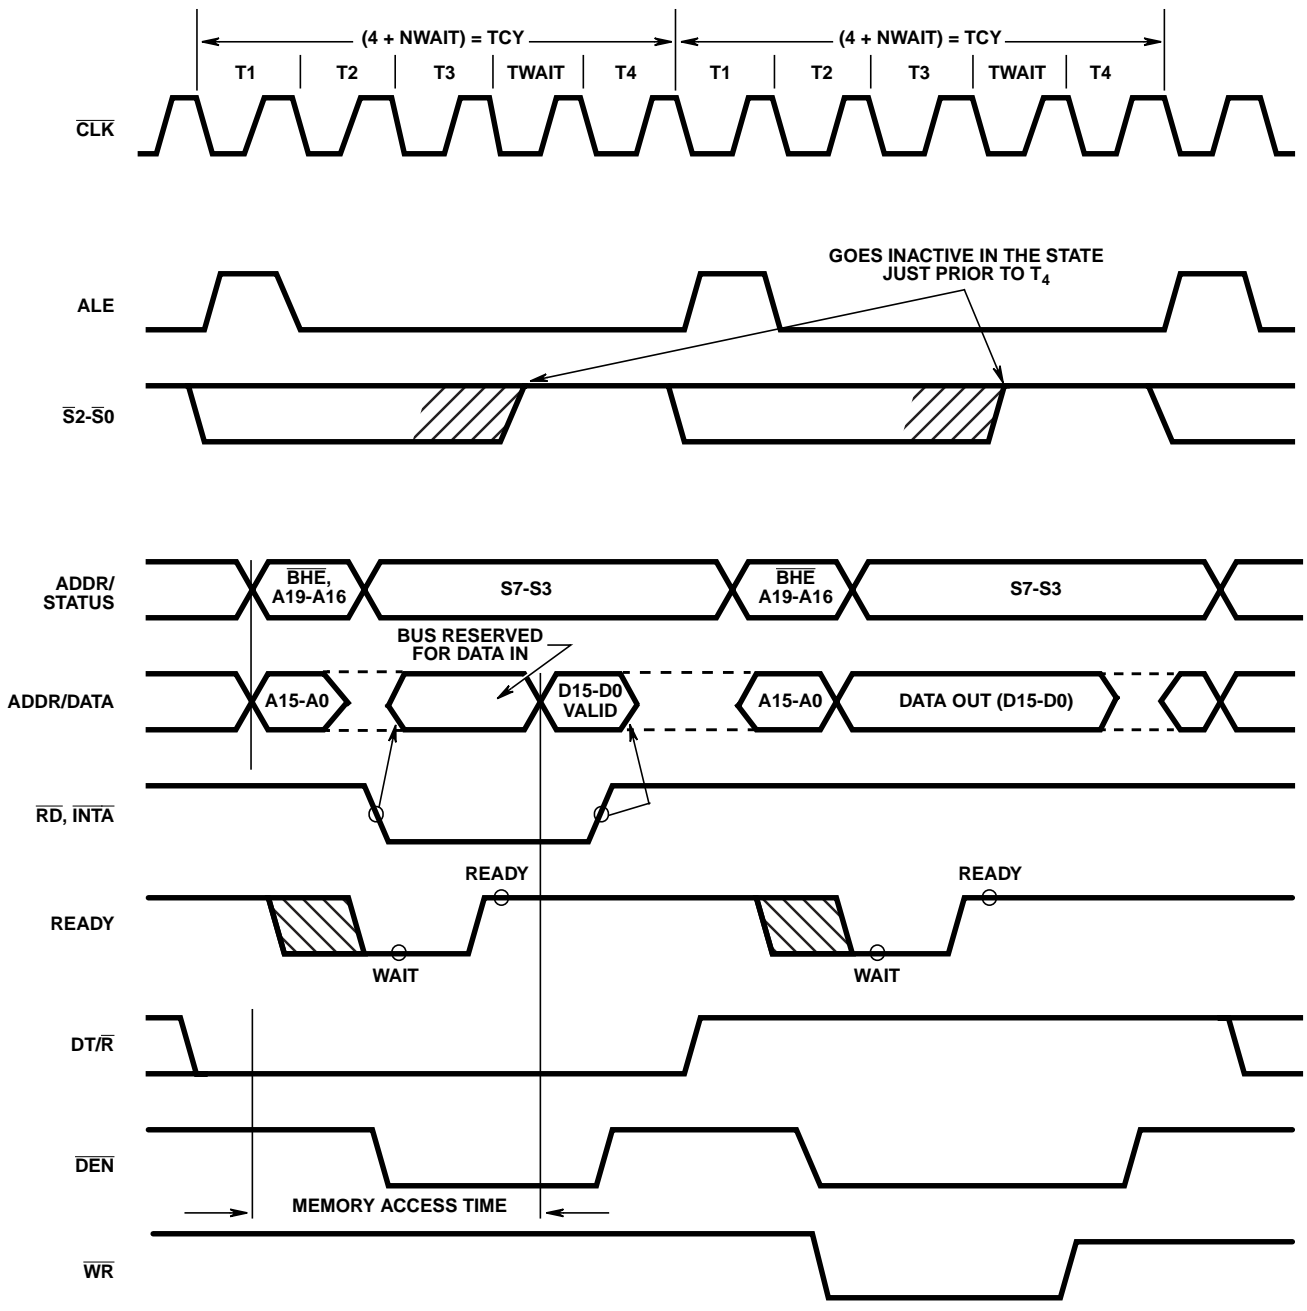
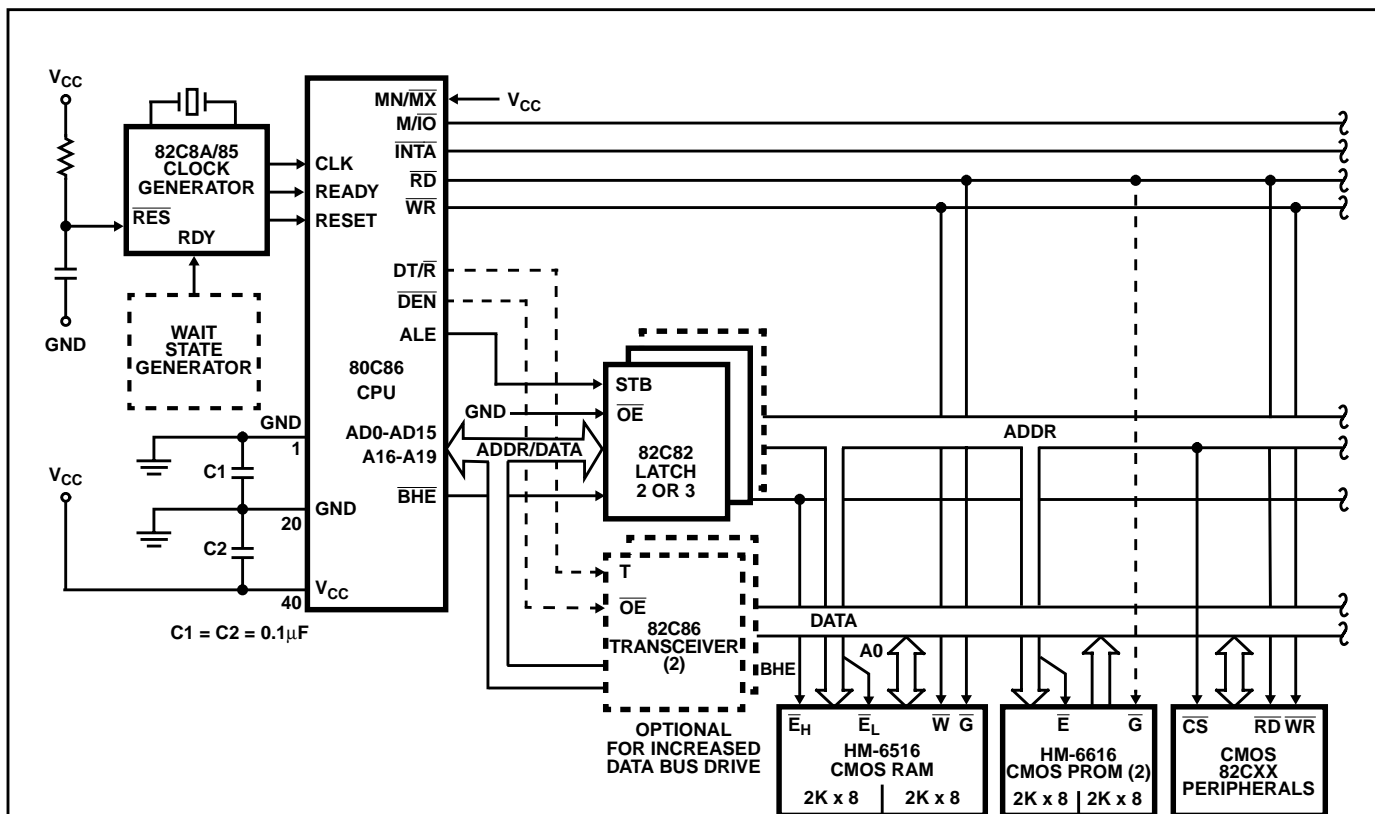

FIGURE 3. BASIC SYSTEM TIMING
FIGURE 6A. MINIMUM MODE 80C86 TYPICAL CONFIGURATION
The demultiplexed mode requires two 82C82 latches (for 64K addressability) or three 82C82 latches (for a full megabyte of addressing). An 82C86 or 82C87 transceiver can also be used if data bus buffering is required. (See Figure 6A.) The
Each processor bus cycle consists of at least four CLK cycles. These are referred to as T1, T2, T3 and T4 (see Figure 3). The address is emitted from the processor during T1 and data transfer occurs on the bus during T3 and T4. T2 is used primarily for changing the direction of the bus during read operations. In the event that a "NOT READY" indication is given by the addressed device, "Wait" states (TW) are inserted between T3 and T4. Each inserted wait state is the same duration as a CLK cycle. Periods can occur between 80C86 driven bus cycles. These are referred to as "idle" states (T_i) or inactive CLK cycles. The processor uses these cycles for internal housekeeping and processing.
Typical system configurations for the processor operating in minimum mode and in maximum mode are shown in Figures 6A and 6B, respectively. In minimum mode, the MN/MX pin is strapped to VCC and the processor emits bus control signals (e.g. $\overline{\text{RD}}$, $\overline{\text{WR}}$, etc.) directly. In maximum mode, the MN/MX pin is strapped to GND and the processor emits coded status information which the 82C88 bus controller uses to generate MULTIBUS compatible bus control signals. Figure 3 shows the signal timing relationships.